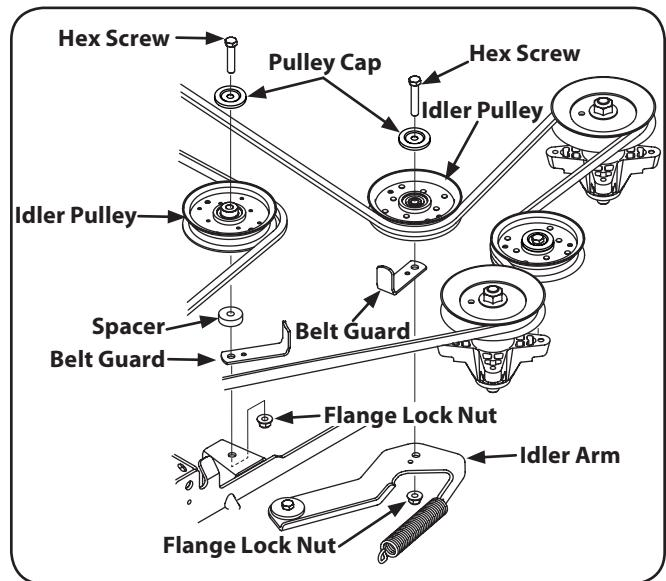

Figure 7-13
- Remove the two idler pulleys by removing the hex screws and flange lock nuts that secure them to the deck and the idler arm. See Figure 7-13. Do not lose any of the hardware when removing the hex screw and flange lock nut.
- Place the belt around the idler pulleys removed in step 3 with the "V" side facing in. Once in place, reinstall all the hardware and tighten the flange lock nut to secure the assembly. See Figure 7-13.
- Route the belt as shown in Figure 7-13 and then reinstall the deck (refer to Deck Installation on page 29).